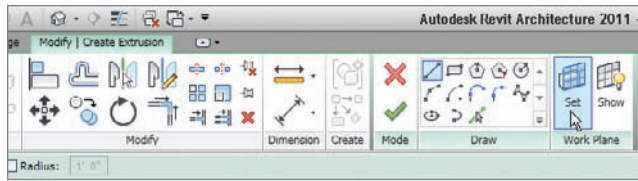

FIGURE 17.16 The Set button in the Work Plane panel
3. In the Work Plane panel, click the Set button, as shown in Figure 17.16.